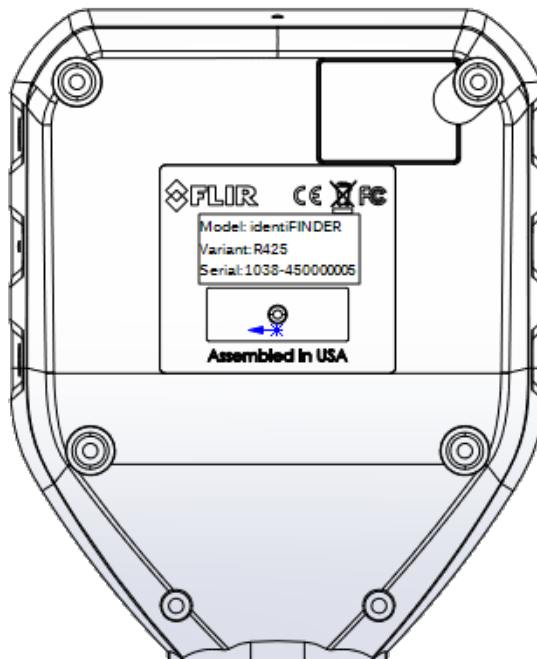

Figure 1-4: R425 back panel
The back panel of the R425 (Figure 1-4) is labeled with the model, variant and serial number of the device. You will need this information if you contact FLIR Detection Customer Support. See "B.3: Service and Support," p. 167.
- Take note of the serial number printed on the back of the detector (Figure 1-4). It is sometimes used to identify the device in a computer network.